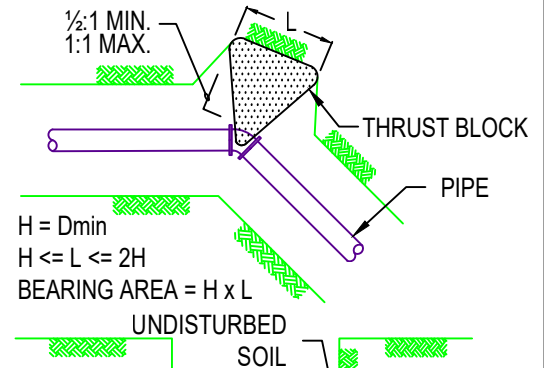

FIGURE 1
4. USING Dmin, THE HEIGHT AND LENGTH OF THE THRUST BLOCKING CAN BE DETERMINED FROM THE DIMENSION RELATIONSHIPS ILLUSTRATED IN FIGURE 1 AND DESCRIBED BELOW: